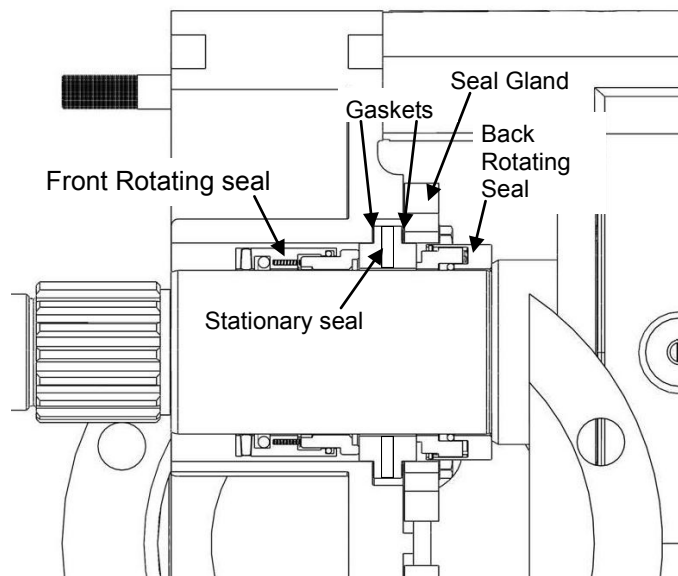

Figure 39: ZP1 320 Double Mechanical Seal Disassembly
*Disassembly:* The ZP1 320 double mechanical seal option consists of two mechanical seal sets (front rotating seal, stationary seal and back rotating seal), four gaskets, and two seal glands (Figure 39). There are also eight bolts and washers used to hold the stationary seal to the body, which have been removed before sliding the body from the gear case (page 17).